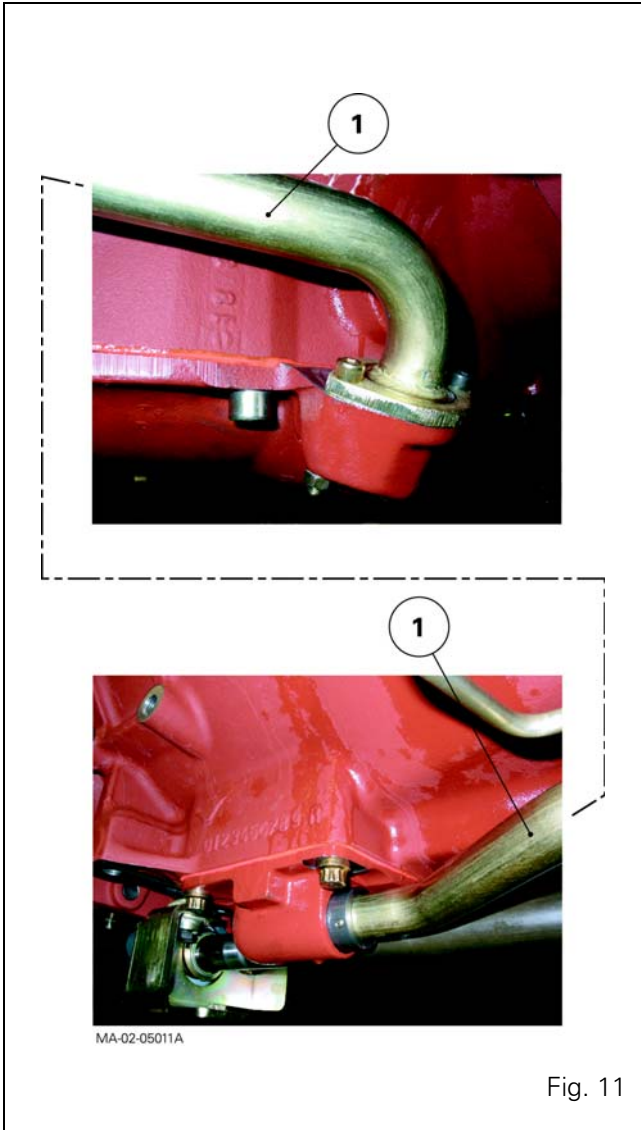

Fig. 11
49. Remove the reverse shuttle lubricating pipe (1) located between the centre housing and gearbox (Fig. 11).